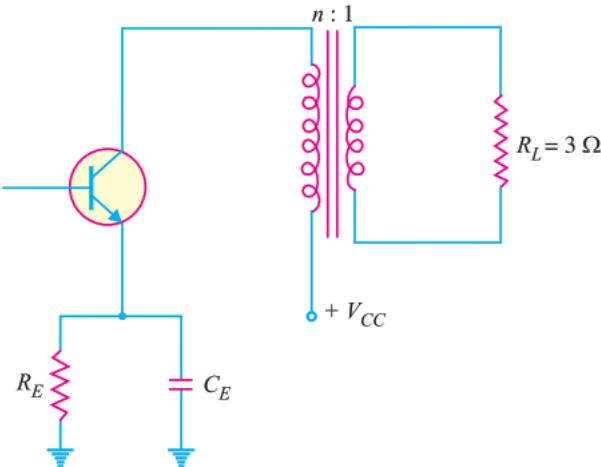

Fig. 3.13
- The output resistance of the transistor shown in Fig. 3.13 is $3 \text{ k}\Omega$. The primary of the transformer has a d.c. resistance of 300Ω and the load connected across secondary is 3Ω . Calculate the turn ratio of the transformer for transferring maximum power to the load.